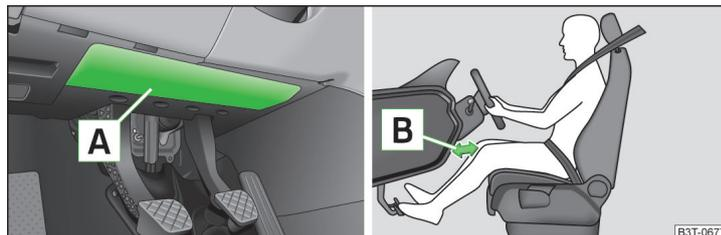

Fig. 10 Installation of the airbag / Safe distance from the switching panel
The driver's knee airbag **A** is located in the lower part of the dash panel below the steering column » Fig. 10.
- Adjust the driver's seat in a forward/back direction so that there is a gap of at least 10 cm between the legs **B** and the dash panel in the vicinity of the knee airbag » Fig. 10. If it is not possible to meet this requirement due to your body size, visit a specialist garage.